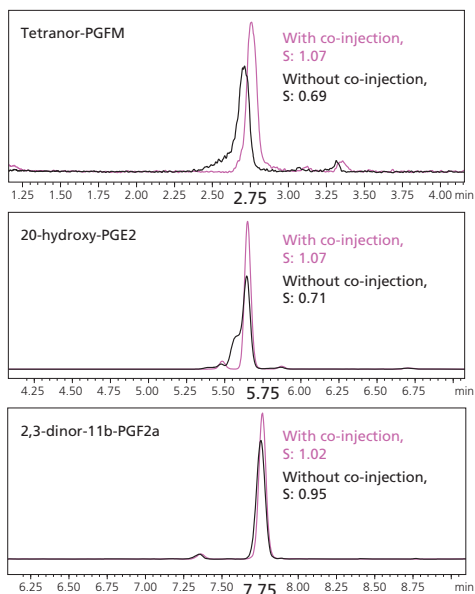

Fig. 4 MRM Chromatograms for Various Lipids (with either 15 μL or no co-injection) (The tailing factor S was calculated by the USP method.)
The effect of co-injecting water using the analytical conditions indicated in Table 1 is shown in Fig. 4. Co-injection improved both the peak shape and the tailing factor (S). It was particularly effective for components with fast retention times.